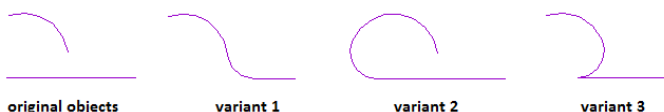

Fig. 129 – an example of using the Fillet function for a line and an arc
- An example result is presented on the illustration below (Fig. 129).